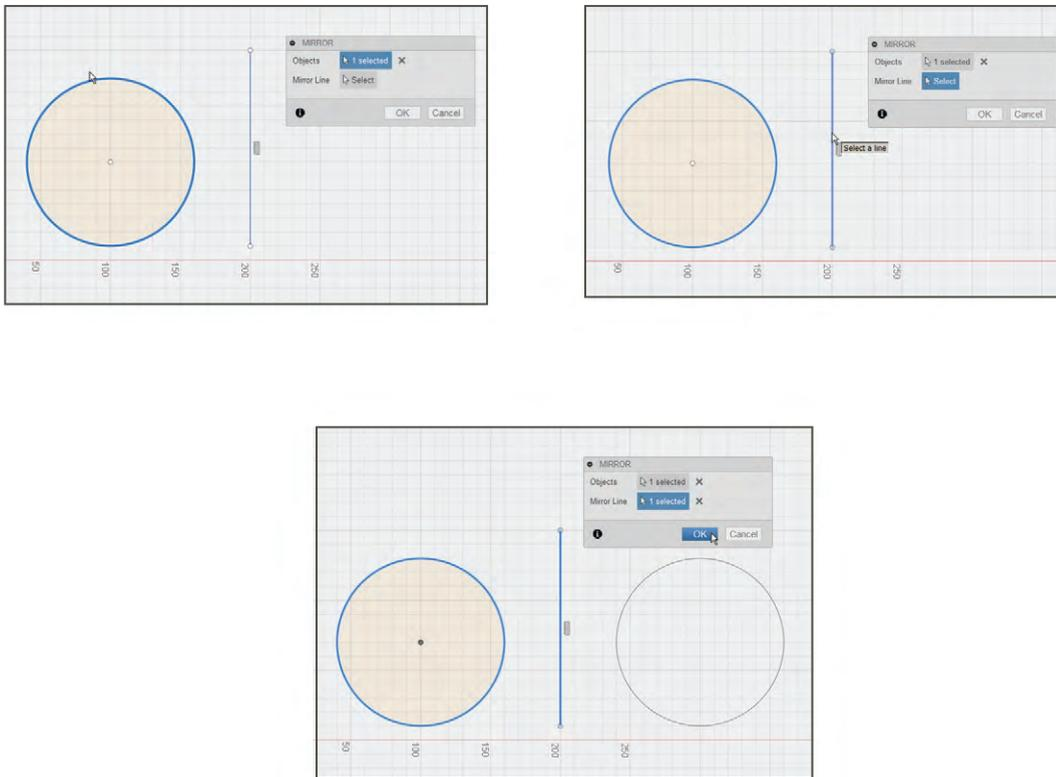

FIGURE 2-44: Mirroring a sketch about a line. The line and sketch must be on the same plane.
- ▶ **Mirror:** This tool makes a reversed copy of a sketch curve. You need a mirror line, and this line must be on the same sketch as the sketch curve being mirrored. Select the sketch curve, select the line to mirror about, and click OK to finish (Figure 2-44). An inability to mirror probably means the mirror line is not on the same sketch as the sketch curve being mirrored.